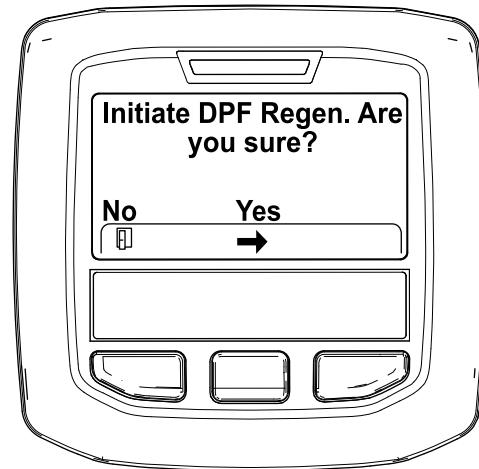

Figure 50
- When the "Initiate DPF Regen. Are you sure?" message displays, press the center button (Figure 50).